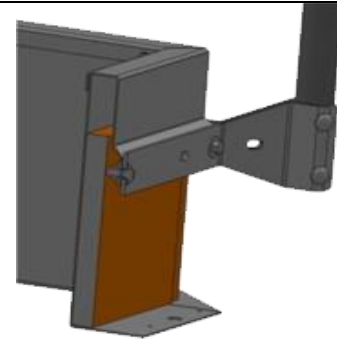

Figure 3
- The railing brackets are designed for mounting on the counterflash of the roof hatch. See Figure 3. **Do not mount brackets through the roof hatch curb or through roofing material.**
- Mark the mounting holes on each corner and drill 1/2 inch diameter holes. Remove 3/8-16 nut and bolt (20, 30) from bracket halves (10).
- Fasten to the corner on counter flashing using 3/8-16 x 3/4 inch bolts (30), washers (40) and threaded nut plate (50), which is placed behind the counterflash for quick, easy installation.
- Align and hold the threaded nut plate (50) behind the counter flash.
- Screw the 3/8-16 x 3/4 inch bolts (30) and washers (40) through the bracket and into the threaded nut plate.
- Insert the 35 inch upright post (60) into the installed brackets and insert the 3/8-16 x 3 inch bolts (70). Tighten the bolts using the 3/8-16 nuts (20).